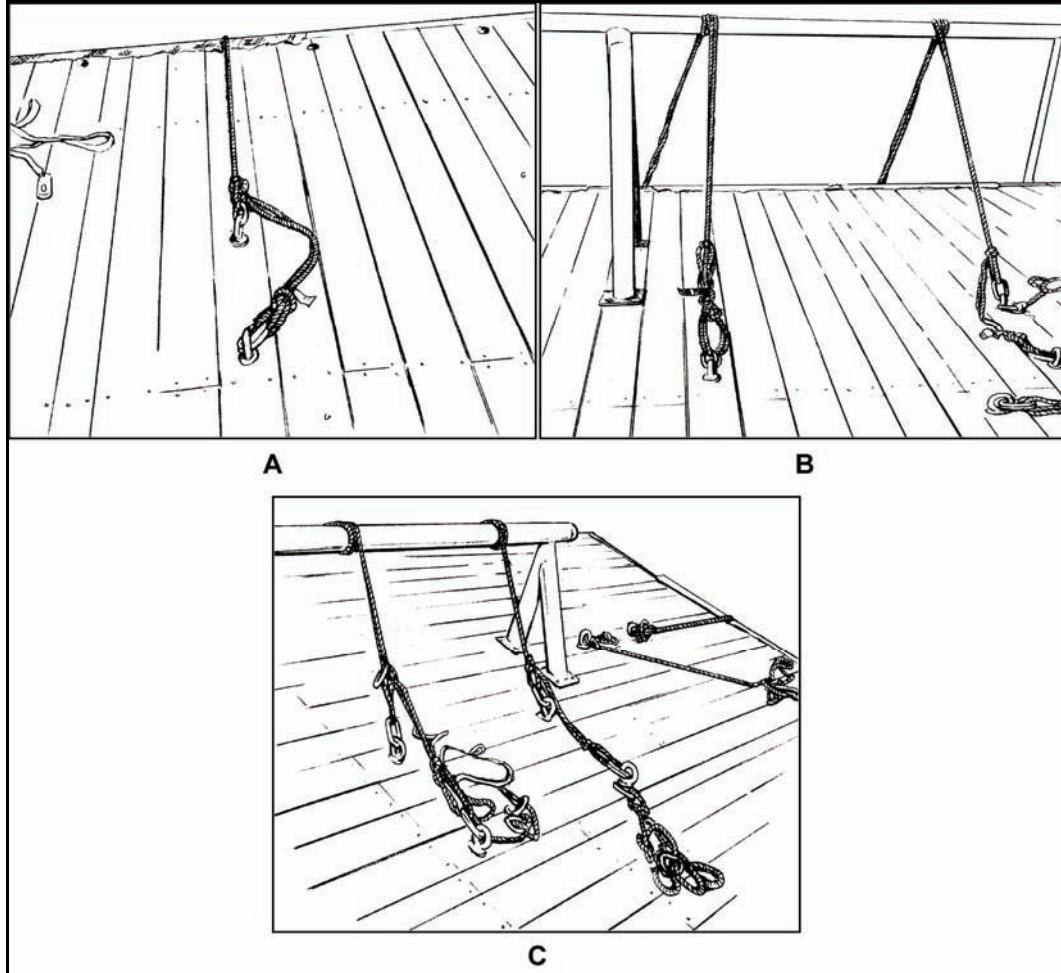

Figure 1-2. Example of rappel tower anchor points.
- All rope stations are rigged with two anchor points (Figure 1-2 A, B, C). The first anchor point is a middle-of-the-rope knot; the second is an end-of-the-rope anchor knot. The rappel master removes all slack between the knots to create equal tension on the anchor points. He also ensures rappel ropes reach all the way to the ground.